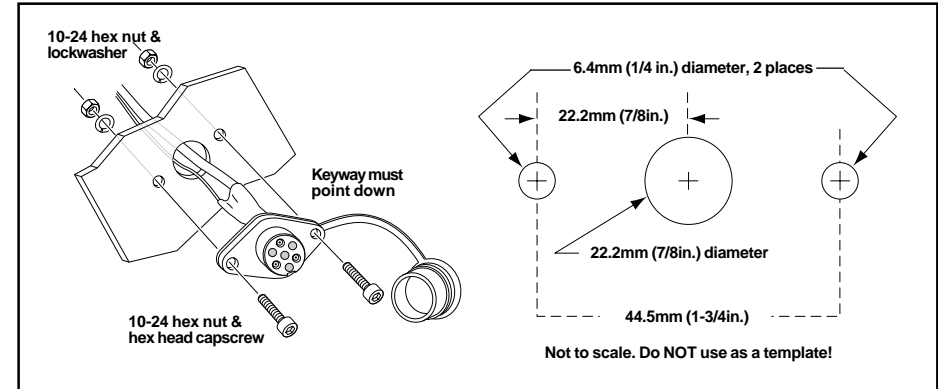

Figure 9. Remote socket installation.
- After determining the mounting location for the remote socket, drill three holes and install. (see figure 9)